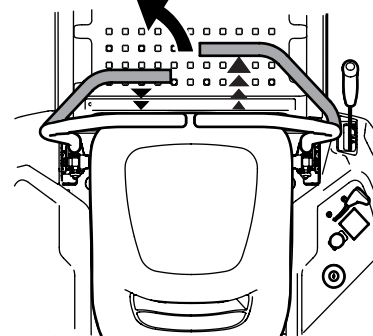

Figure 3-5
1. To turn to the left, move the left drive control lever rearward of the right drive control lever. See Figure 3-5.